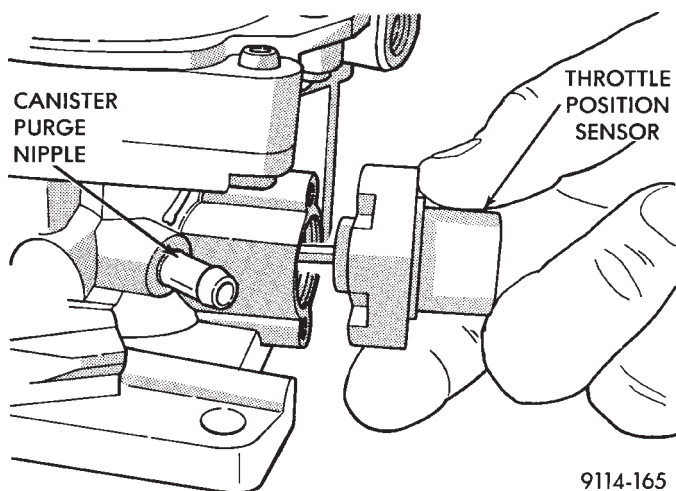

Fig. 13 Servicing Throttle Position Sensor
(1) Disconnect negative cable from battery.
(2) Remove air cleaner.
(3) Disconnect harness connector from throttle position sensor (Fig. 13).
(4) Remove throttle position sensor mounting screws.
(5) Remove throttle position sensor from throttle shaft.